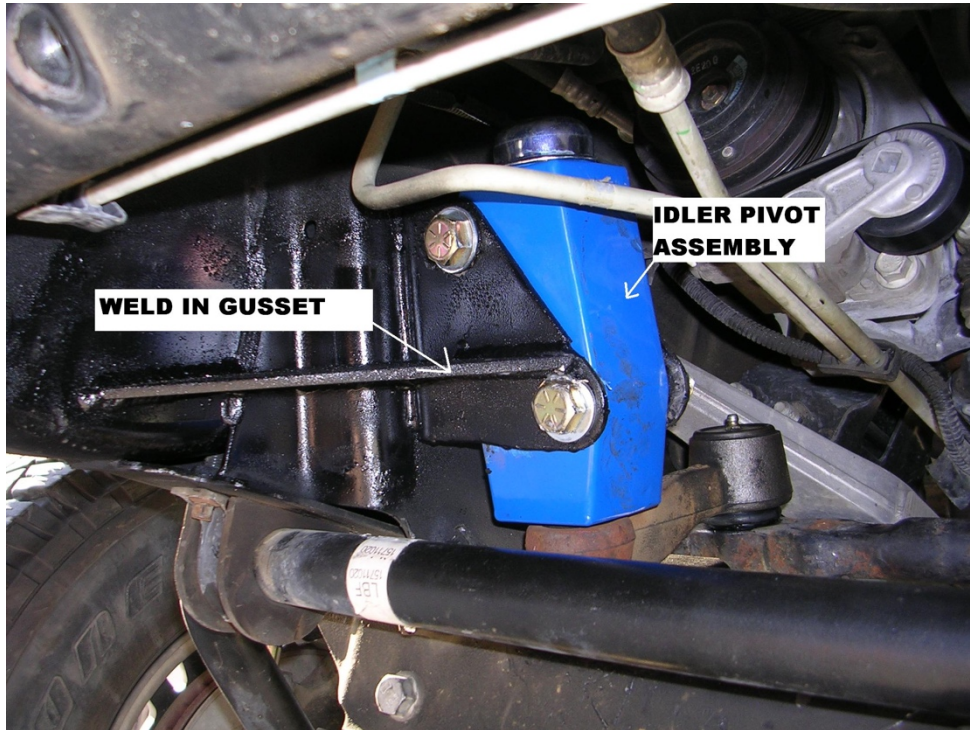

FIGURE 1.1
6. Install the weld in gusset as shown in the picture (figure 1.1) A qualified welder will be needed at this point. ****Do not quench welds****
8. Install the new **Idler Pivot Assembly** (noted in figure 1.1) in the reverse manner above, using **NEW** 9/16 – 12, Grade 8 bolts, flat washers and locknuts. (Flat washers must be under the bolt head and between the nut and the frame bracket.) Torque to 100ft. lbs.